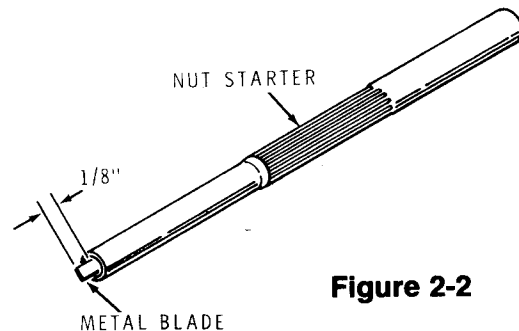

Figure 2-2
- (✓) Refer to Figure 2-2 and use a pair of pliers to push the 1" steel blade into the smaller end of the nut starter until 1/8" remains exposed. Use this tool when you are instructed to adjust trimmer capacitors.